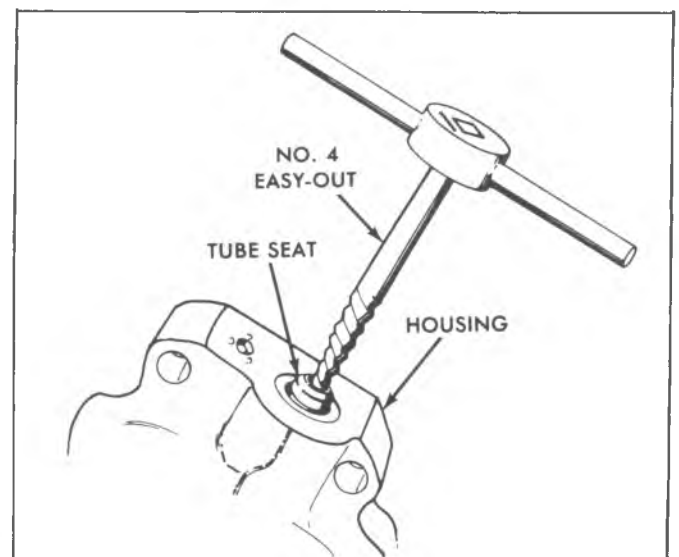

Fig. 5-10E—Removing Tube Seat
19. Remove the tube seats using No. 4 easy-out as shown in Figure 5-10E.